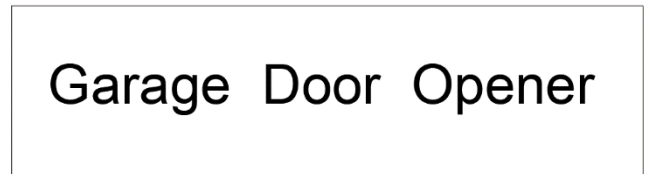
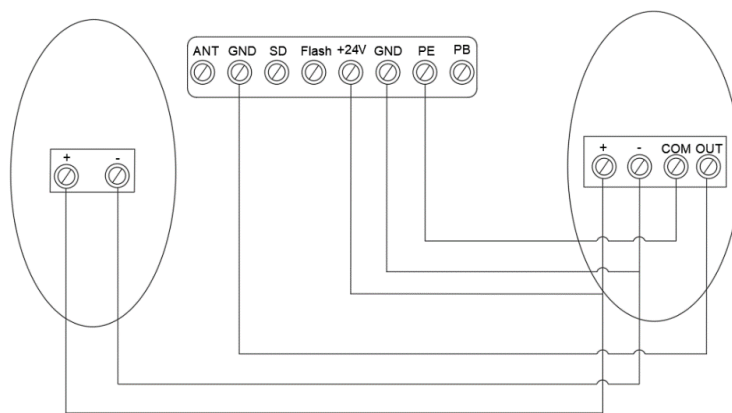

Figure 22
Figure 23
NOTE: Make sure the photo cell has been correctly installed and use Normally Closed contacts to the accessory terminals of the opener (Fig.22, Fig.23)
The O/S/C facility can be used for an external push button switch to operate the opener. The switch must have voltage free normally open NC contacts (Fig. 22)
Photo beam connection (optional) – Fig.22, Fig.23
Switch control connection (optional) – Fig.22
1. The O/S/C interfaces available. (Fig. 22)